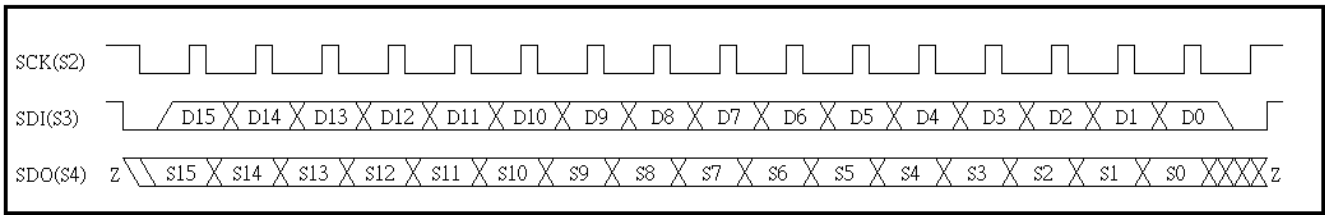

Fig. 25 I2C Data Output Command timing
- a. Command timing reference Fig. 25 I2C Data Output Command timing.